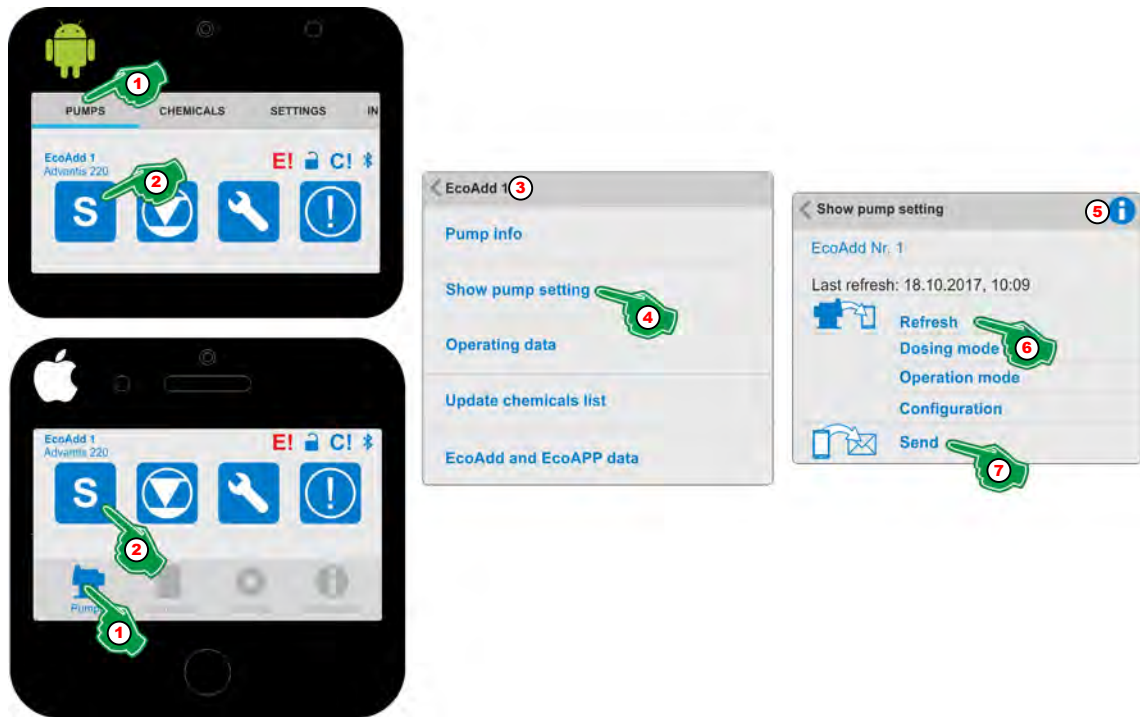

Fig. 23: Show pump settings
1. ➤ Select Menu [Pumps] (Fig. 23, Pos. 1).
2. ➤ Select Symbol 'Dosing mode' (Fig. 23, Pos. 2).
3. ➤ To check which pump data is currently displaying, look on the header (Fig. 23, Pos. 3). The selected pump is displayed.
4. ➤ Select [Show pump settings] (Fig. 23, Pos. 4).
5. ➤ With selection of the [Info] ⓘ symbol (Fig. 23, Pos. 5), the following information appears:
6. ➤ Select [Refresh] (Fig. 23, Pos. 6).
7. ➤ Select [Send] (Fig. 23, Pos. 7).